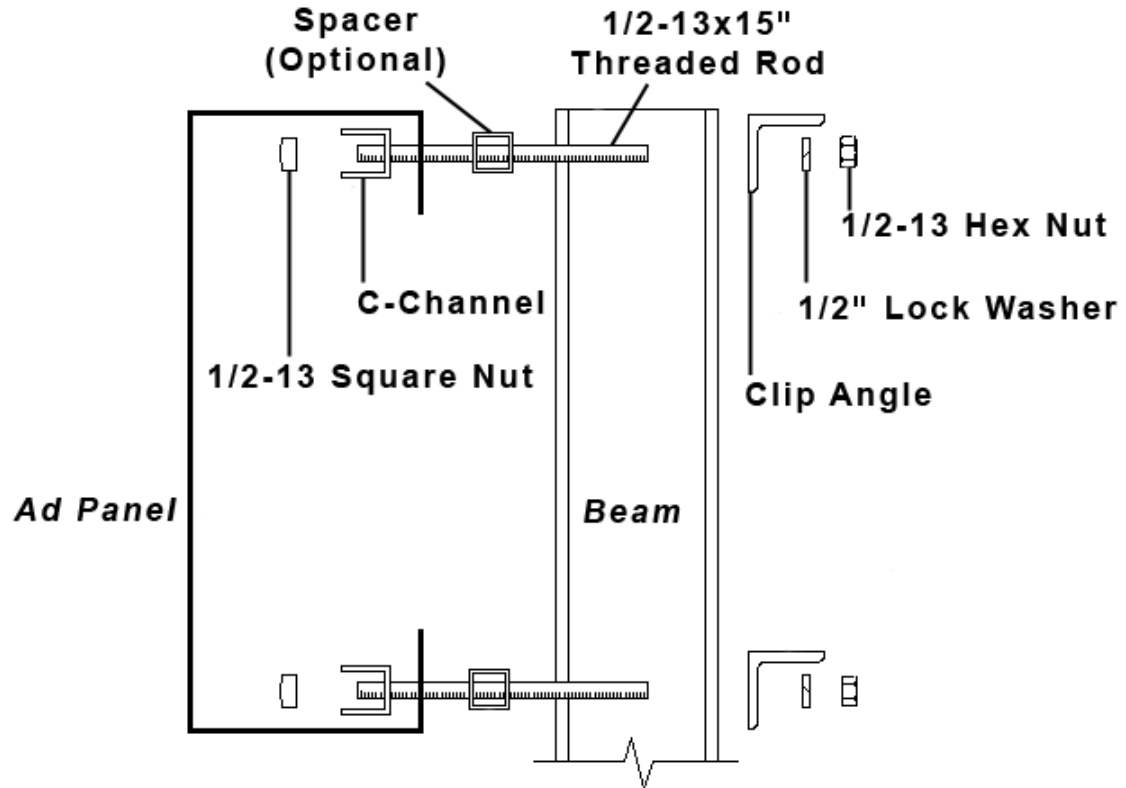

Figure 8: Ad Panel Mounting with C-channel, Side View
The installation uses C-channels; clip angles; 1/2-13" threaded rods; and 1/2" square nuts, hex nuts, lock washers, and optional spacers. Refer to **Figure 8** and **Drawing A-52187** in **Appendix A**.
3. Position the C-channel *inside* the ad panel cabinet along the upper and lower rear flanges as shown in **Figure 8**.